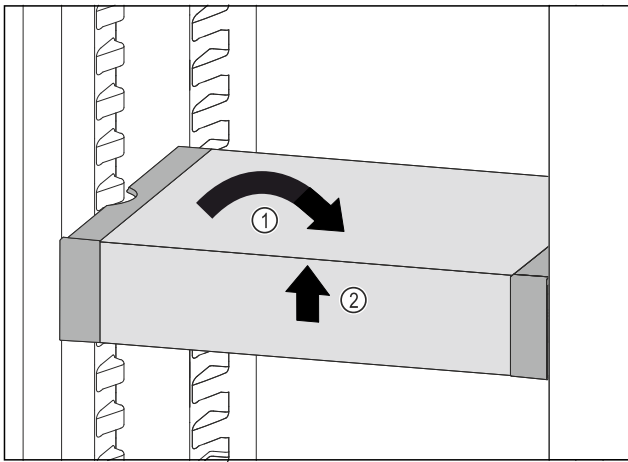

Fig. 123
- Set VarioSafe straight. *Fig. 123 (1)*
- Lift VarioSafe at the front. *Fig. 123 (2)*